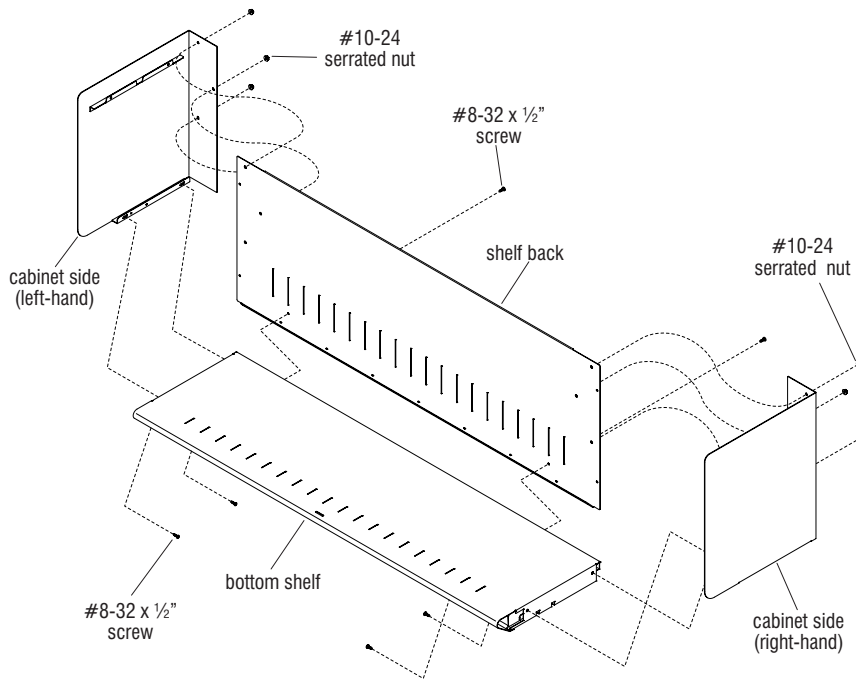

Figure 1
1. Orient the shelf back to the right-and left-hand cabinet sides as illustrated. Position the rear vertical mounting flanges of both cabinet sides so the three studs on each end of the shelf back go through the three holes in each cabinet side. Place #10-24 serrated nuts on each of the three studs at each end and secure cabinet sides to the shelf back (Figure 1).
2. Move the bottom shelf into position between the cabinet shelves, above the lower mounting flanges and toward to the shelf back. Nest the bottom shelf down onto the cabinet side lower mounting flanges and align mounting holes. Secure the bottom shelf to the cabinet sides from underneath, at each end using two #8-32 x 1/2" screws (Figure 1).
3. At the lower rear of the shelf back, secure the shelf back to the back edge of the bottom shelf using two #8-32 x 1/2" screws (Figure 1).